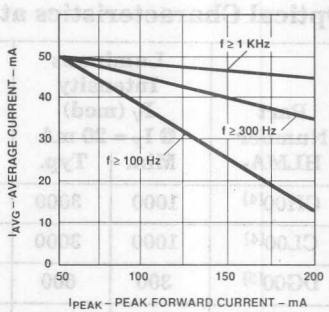

Figure 5. Maximum Average Current vs. Peak Forward Current.
- Refer to Figure 5 to establish pulsed operating condition.